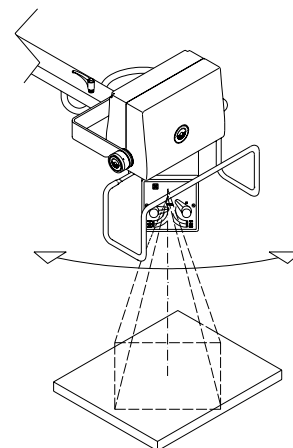

Figure 13
2. If needed, turn the collimator around its vertical axis. (see Figure 13).